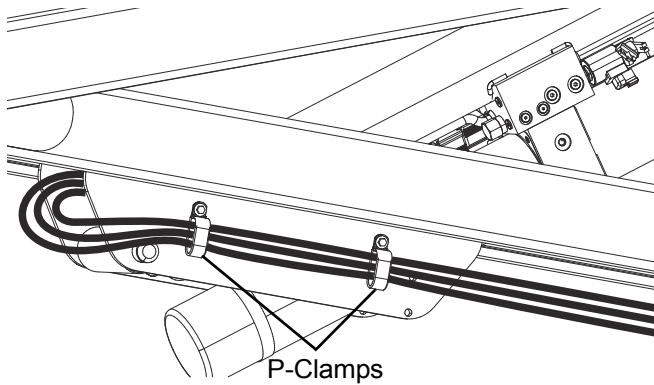

Figure 7
9. View of Cable Routing at Frame. Elevate machine to full height Check Valve Lever clearance (Refer Fig 7). There should be clearance between Lever and Plunger, adjust as required with jam nut on threaded cable end. Pull handle and verify if descent valve opens & Scissor arms retract.